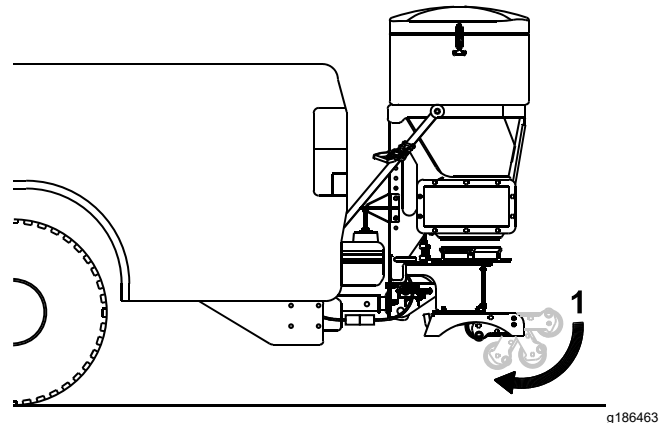

Figure 22
8. Step on the leg-assembly wheels to pivot them and stow them under the leg assembly (Figure 22).